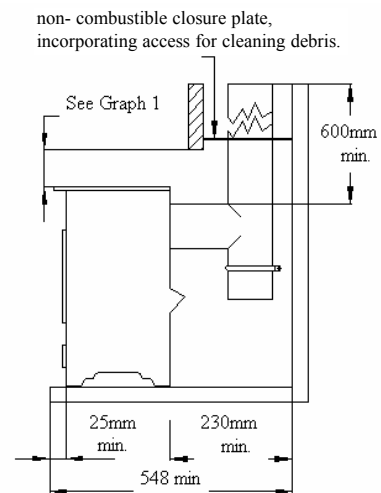

Fig 6b
Provide a minimum vertical height of 600mm of flue from the height of the rear flue outlet. See **figure 6b**.
*There must be a minimum of 200mm clearance from the sides of the fire to any combustible sidewalls. Fig6b.*